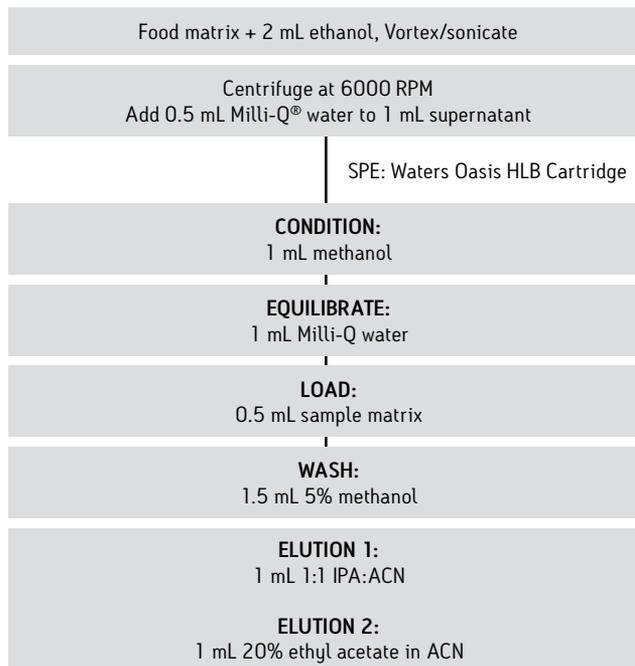

Figure 1. Illustration of extraction protocol.
Figure 1. UPLC/MS analysis of carbohydrates in 75/25 ACN/H₂O containing formic acid, no modifier, and ammonium hydroxide. The flow rate is 0.13 mL/min, the column temperature is 35 °C, and the Injection volume is 0.7 µL. The concentration of each analyte is 10 µg/mL in 50/50 ACN/H₂O. The column dimensions are 2.1 x 50 mm, 1.7 µm. Peaks: (1) fructose, (2) glucose, (3) sucrose, (4) maltose, and (5) lactose.
Figure 2. UPLC/MS analysis of carbohydrates using acetone as the organic solvent. The isocratic mobile phase was 77/23 acetone/H₂O with 0.05% NH₄OH. The flow rate is 0.13 mL/min and the column temperature is 85 °C. The column dimensions and Injection volumes are shown on the figure. The sample and peak elution order is identical to Figure 1.